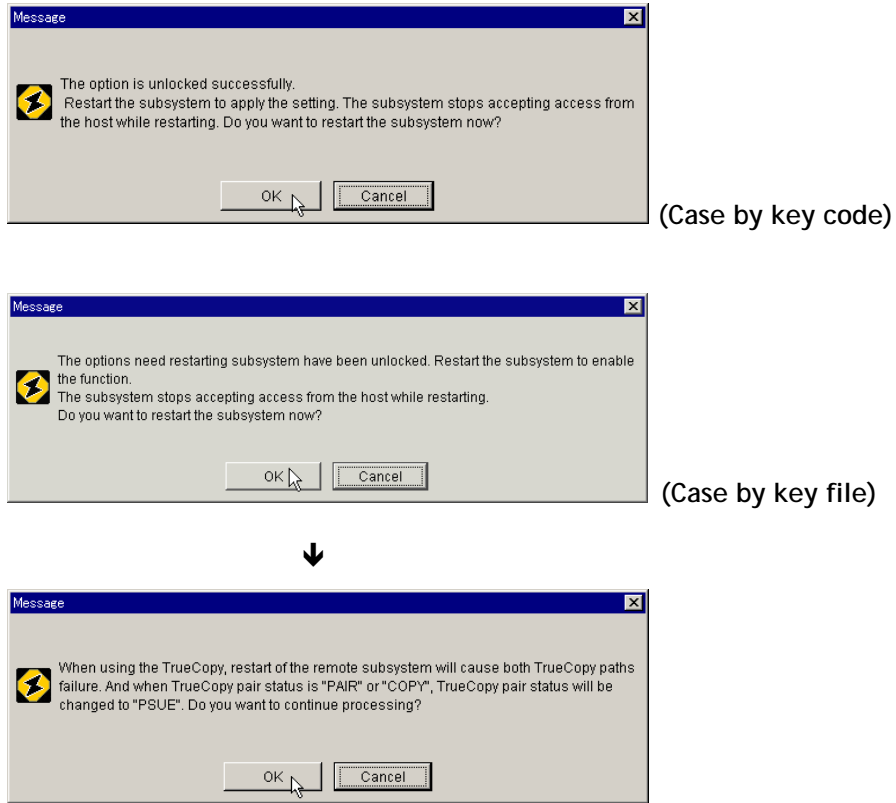

Figure 4.6 Restart After Unlock
11. A message appears, confirming that the SNMP feature is opened. This message also asks you to restart the subsystem (see Figure 4.6). Click the **OK** button.